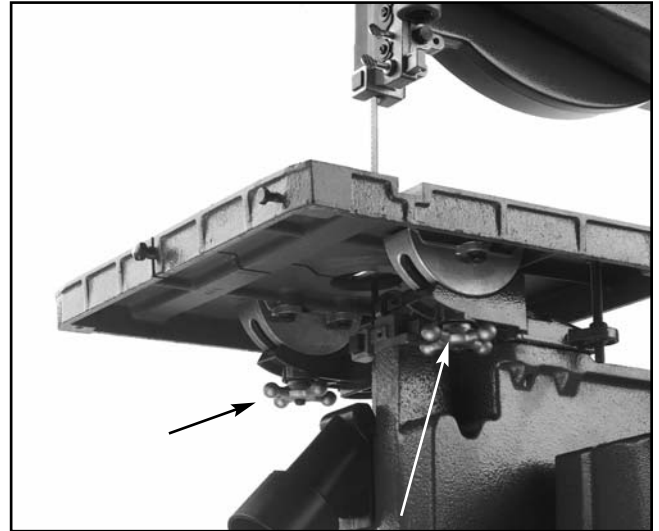

Figure 19. Star knobs
5. Secure the table to the support bracket by tightening the two star knobs. **See Figure 19.** Remember to position the table so that the miter slot is to the right of the blade as you face the front of the bandsaw.